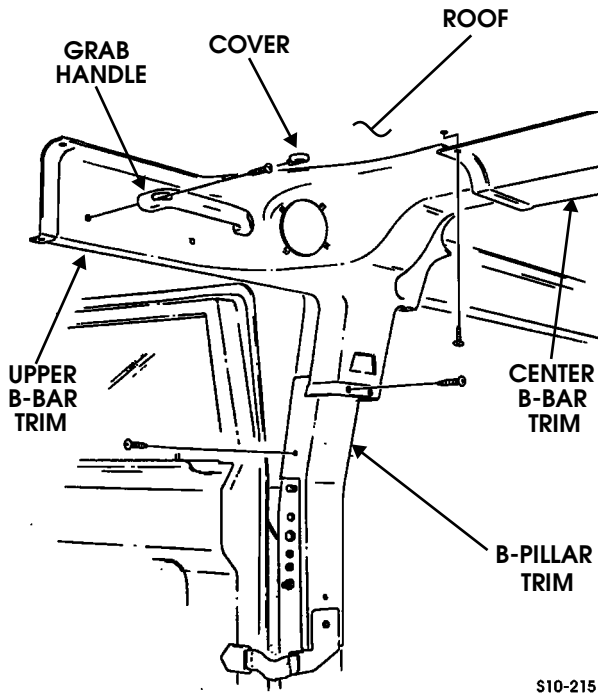

Figure 10-42: Driver Side Interior Trim Component Identification
4. Remove screw/washer assemblies and B-bar center trim from roof (Figure 10-42).